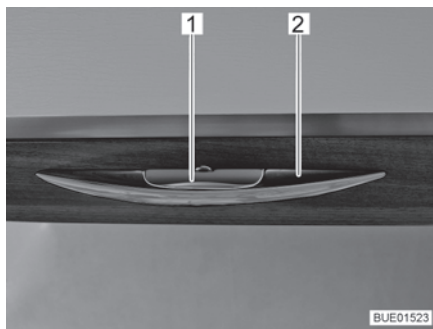

Fig. 47 Furniture flap with release handle
- Press the release handle (Fig. 47,1) and hold it down.
- Pull the handle (Fig. 47,2) until the furniture flap is open.